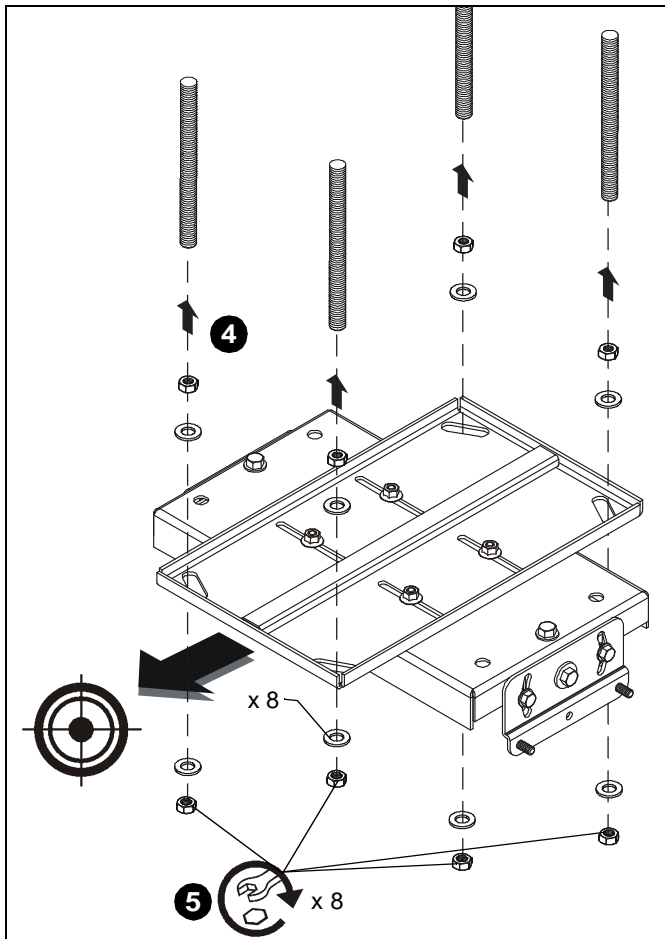

Figure 7
4. Install the LPK1 with VCM (not included) onto the threaded rod. (See Figure 7)
5. Secure the LPK1 to the threaded rod using four 3/8" washers and jam nuts. (See Figure 7)